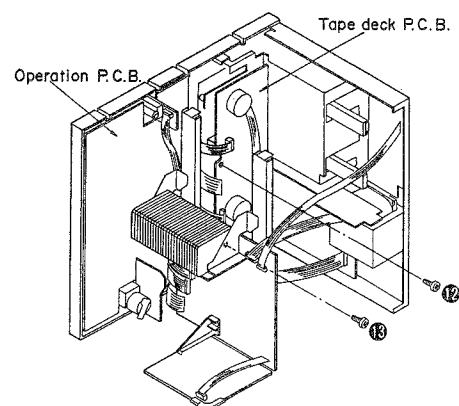

Fig. 3
5. When checking the soldered surface of the P.C.B., do as shown in the fig. 3.
6. Remove the 2 screws (⑫, ⑬).